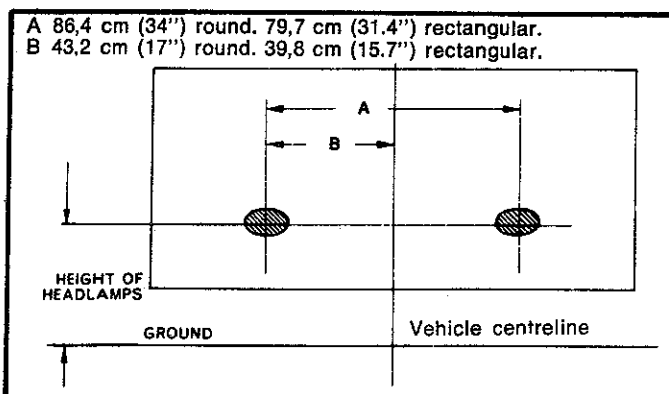

Fig. 2—High beam adjustment pattern
(2) Switch to high beam, mask off the outer pair and adjust the inner pair (as shown in Fig. 2).